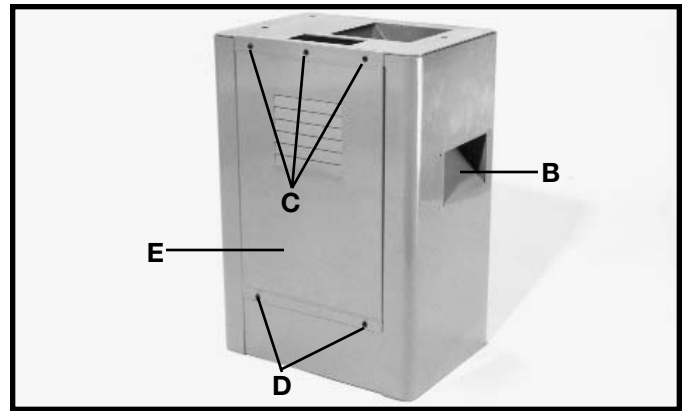
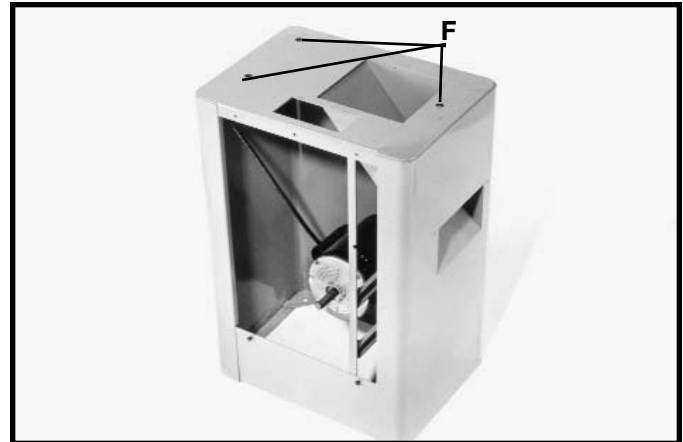
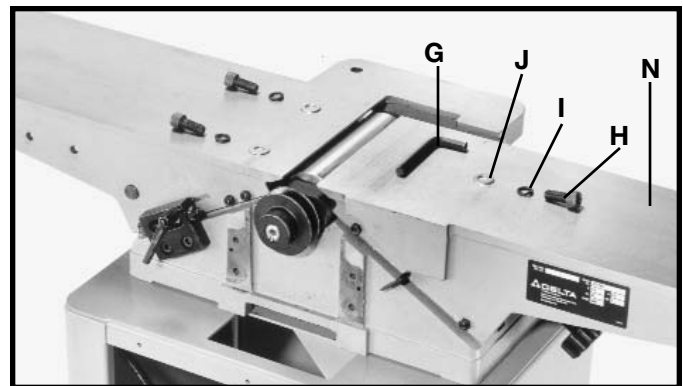

Fig. 7
Fig. 8
Fig. 9
1. The outfeed end (N) Fig. 9, of the jointer must be pointing toward the end of the stand with dust chute opening (B) Fig. 7.
2. Remove three screws (C) Fig. 7, and loosen two screws (D). Then remove back panel (E) from stand by lifting upward.
3. Line up the three holes (F) Fig. 8, on the top of stand with the three threaded holes on the bottom of the jointer base. Using the supplied 8mm hex wrench (G) Fig. 9, fasten the jointer to the stand. Place a M10.2 lockwasher (I), on a M10x1.5x20mm hex socket head screw (H), and a M10 flat washer onto the screw. Insert the screw through the hole in the stand and thread the screw into the tapped hole in the bottom of the jointer, and tighten securely. Repeat this process for the two remaining holes in the stand and the jointer. **NOTE:** The mounting hole located on the dust chute end of the stand is accessed by reaching up through the dust chute.